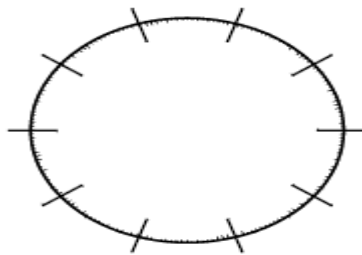

Figure 1 The Circle divided into equal small segments
4. The concept of FEA can be explained with a small example of measuring the perimeter of a circle, refer to Figure 1.